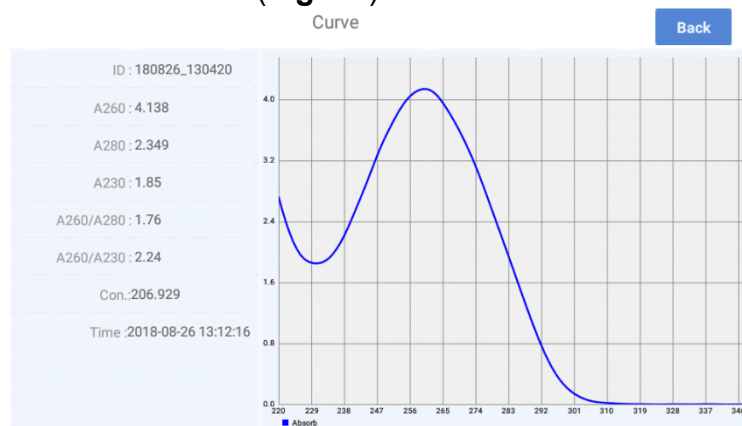

Fig. 15 Nucleic Acid Sample Absorbance Curve (220 – 350nm).
- Spectrum Data** : To view sample absorbances at a specific wavelength, input a wavelength and the red coordinate line will display the corresponding absorbance value (**Fig. 15**).